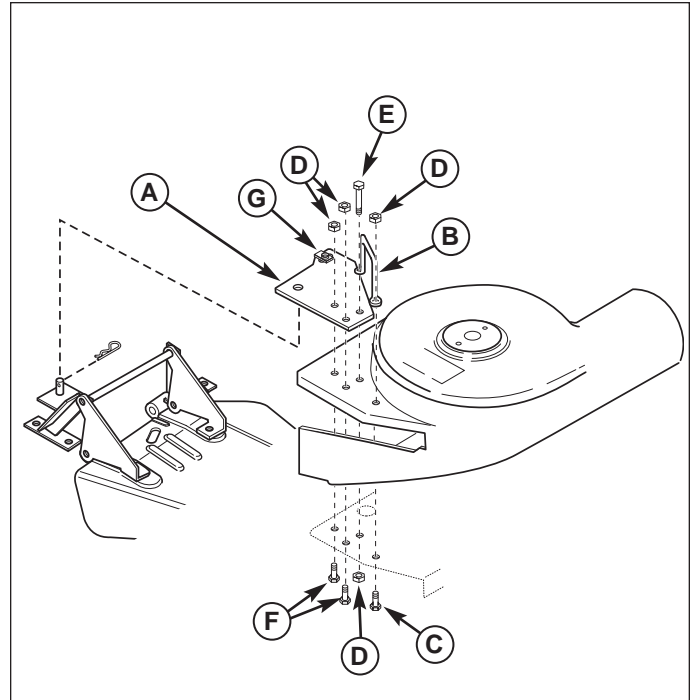

Figure 5. Assemble Turbo
3. See Figure 5. Install the double stacked pulley (A) from turbo kit, with the larger pulley on the bottom. Use the longer capscrew (B) supplied with the kit along with the original hardware.
1. Assemble the turbo. Install the bracket (A, Figure 5) and upstop (B) as follows:
NOTE: Upstop (B, Figure 5) has short and long leg. The difference is the thickness of bracket (A). Place long leg on housing and short leg on top of bracket. Washer(s) may need to be added under each leg of upstop if deflector contacts housing. See ADJUSTMENTS.
2. Install 1/4-20 x 7/8 capscrew (C) from inside turbo housing. Place upstop (B) on capscrew and secure with 1/4-20 locknut (D).
3. Install 1/4-20 x 2-1/4" full thread capscrew (E) through upstop (B), bracket (A), and housing. Secure with 1/4-20 locknut. End of capscrew should touch bottom housing surface.
4. Install 1/4-20 x 3/4 capscrew (F) to secure bracket to housing. Secure with 1/4-20 locknuts (F).